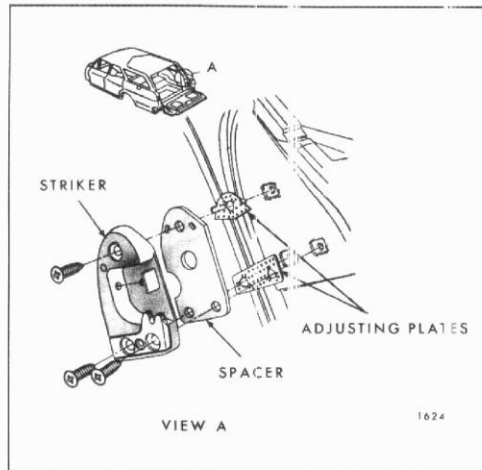

Fig. 9-56-Tail Gate Striker Assembly
3. To install, align striker and components within pencil marks and install attaching screws (Fig. 9-56), making certain screws are torqued to 36-45 foot pounds.